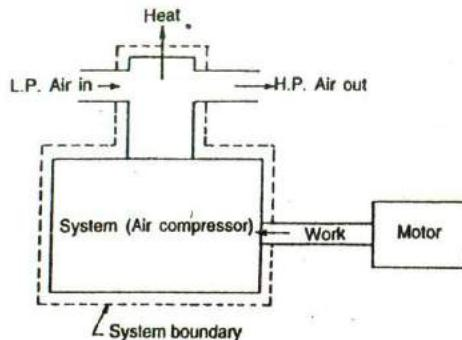

Fig. 1.3. Open thermodynamic system.
**2. Open system.** In this system, the mass of the working substance crosses the boundary of the system. Heat and work may also cross the boundary. Fig. 1.3 shows the diagram of an air compressor which illustrates an open system.